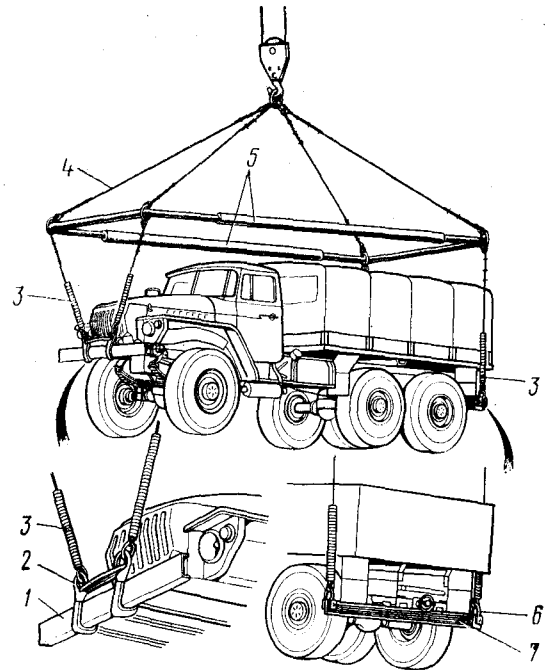

Fig. 151. Application of Hoisting Slings:
3. Load and unload the truck by means of a sling lifter (Fig. 151) or by its own power.